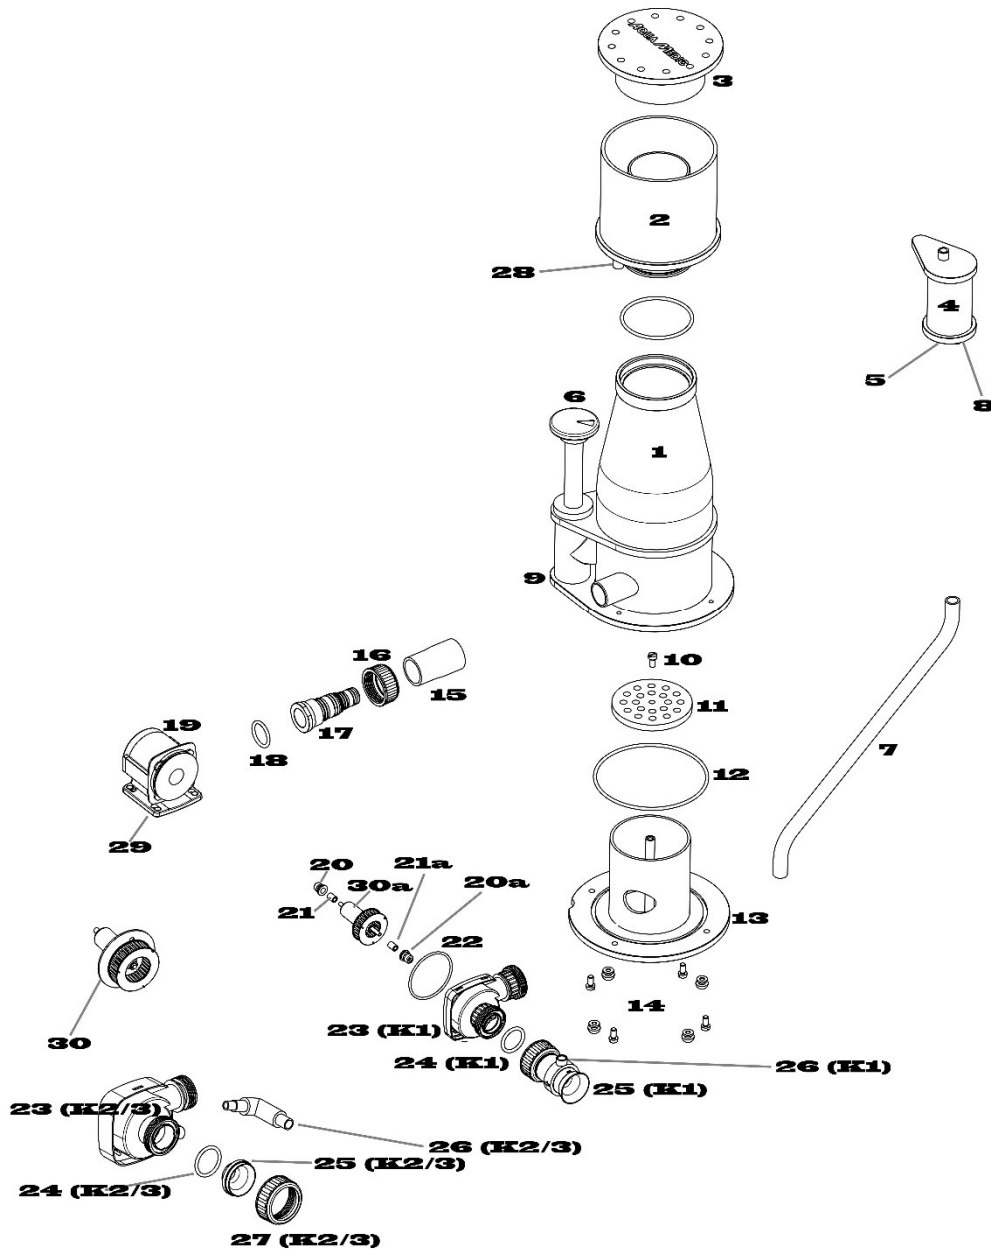

Fig. 1: Skimmer K1, K2, K3
Pressure side: The pressure side is connected to the skimmer by the existing connection by a piece of hose. Please make sure that the O-rings (Fig. 1, No. 18 + 24) are placed into the groove. If possible, mount the pump horizontally for best air power and quiet operation.
- The air tube has always to be installed upward over the water level in the skimmer. **This air tube must not hang down.** Therefore, it should always be connected to the silencer (Fig. 1, No. 5). The silencer has to be put into a borehole of the foam cup's lid. Connect the bottom end of the tube to the air intake of the pump. The foam cup is simply inserted into the skimmer's housing from the top.
- The skimmer will be filled by starting the venturi pump on a low level. A very quick water flow leads to very fast overflowing of the foam cup. Here, special caution is required, if one connects the outflow nozzle of the foam cup via a hose with a container standing beside the filter sump. There is the danger that the container overflows if the skimmer cooks over. Thus, this would also lead to strong loss of water in the filter sump whereby other devices could run dry and therefore, could be damaged. The flow should be adjusted by using the adjusting screw (Fig. 1, No. 6) and / or the pump controller so that a nearly dry foam will be produced. There is an arrow on the adjusting screw. If it points to the skimmer, the outlet is set to the lowest level.